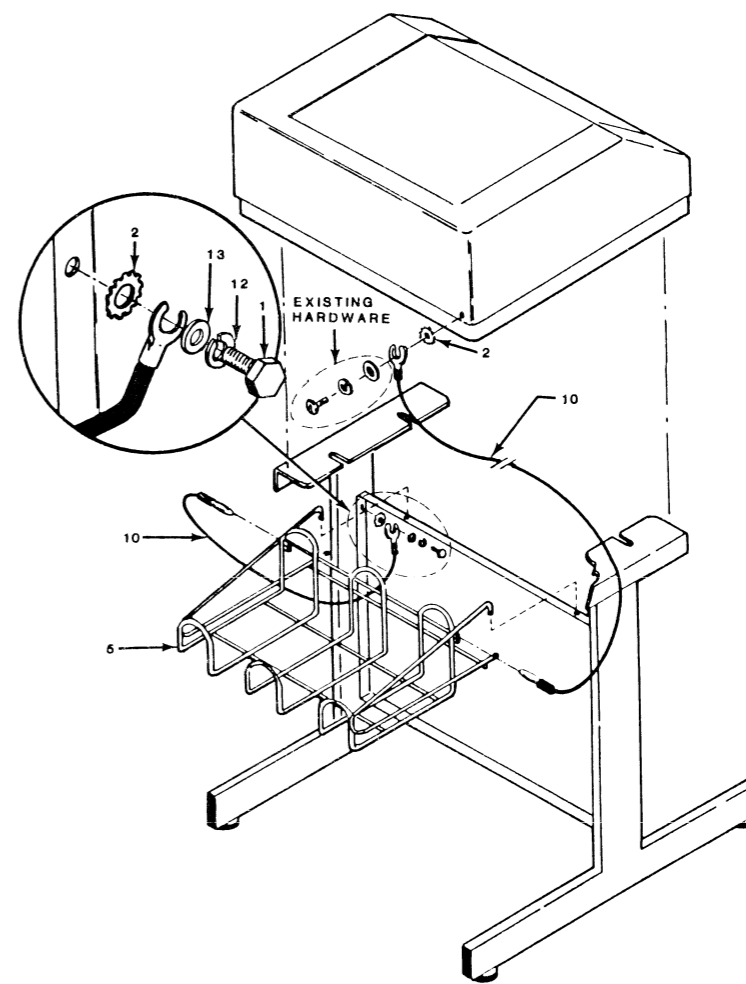

FIGURE 7
Insert the spade connector end of the ground strap (item 10) between the lock washer (item 2), which should be against the inside edge of the central panel, and flat washer (item 13), with split lock washer (item 12), on top, as shown in figure 7, page 3. Then tighten screw completely.
Load basket into proper position, as shown in figure 7.